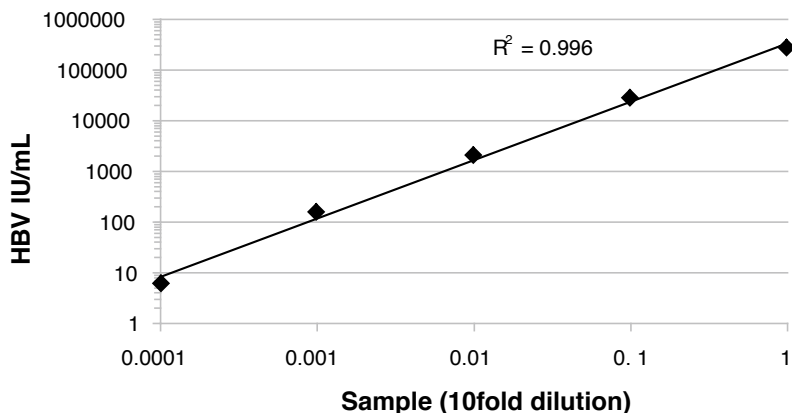
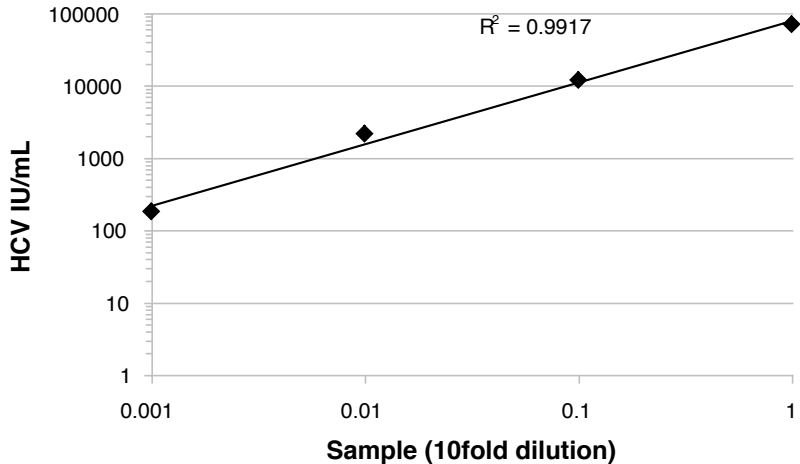

Figure 1 Serial dilution of a plasma sample with high HBV viral load.
Figure 2 Serial dilution of a plasma sample with high HCV viral load.
The linear range of the **NucleoSpin® Dx Virus** procedure has been determined for HCV RNA and HBV DNA in downstream diagnostic assays (Figure 1 and Figure 2). The kit shows linearity over several orders of magnitude, comprising relevant viral titer for diagnostic purposes. Within run repeatability was tested with RT-qPCR of MS2-RNA and qPCR of T7-DNA. For six spike amounts – each in triplicate, covering several orders of magnitude – the coefficient of variation (CV) of the Cp-values was 0.2–0.9% for T7-DNA and 0.6–5.6% for MS2-RNA. Between run repeatability was tested in 2 independent runs. With six plasma samples each the difference between the average Ct-values of the two runs was 0.1 cycle corresponding to a 0.4% difference between the average Ct-values of the two runs. Batch-to-batch repeatability was tested with three batches of NucleoSpin Dx Virus. gDNA from plasma samples was isolated for each batch (n=6). The mean Ct-value for the three batches tested was 27.63 Ct with a standard deviation of 0.07 Ct-value. In a similar approach, an MS2-RNA spike was isolated from plasma samples and analyzed by qRT-PCR. The mean Ct-value for the three batches tested was 25.34 Ct with a standard deviation of 0.25 Ct-value.